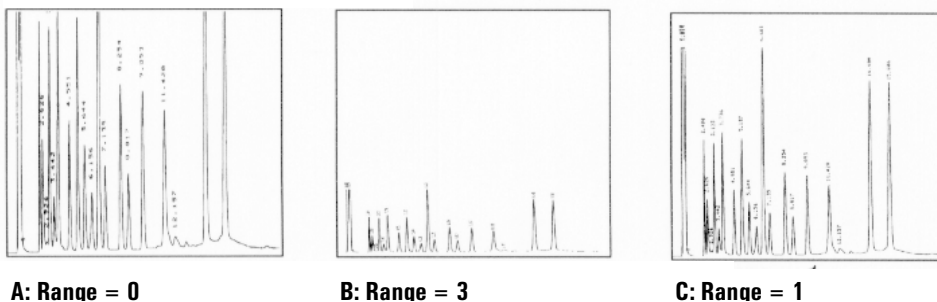

Figure 21 Effect of range setting on chromatogram
If a chromatogram looks like A or B in Figure 21, the data needs to be scaled (as in C) so that all peaks are visible on the paper.
Valid setpoints are from 0 to 13 and represent 2^0 (1) to 2^{13} (8192). Changing a setpoint by 1 changes the width of the chromatogram by a factor of 2. The chromatograms in Figure 21 illustrate this. Use the smallest possible value to minimize integration error.